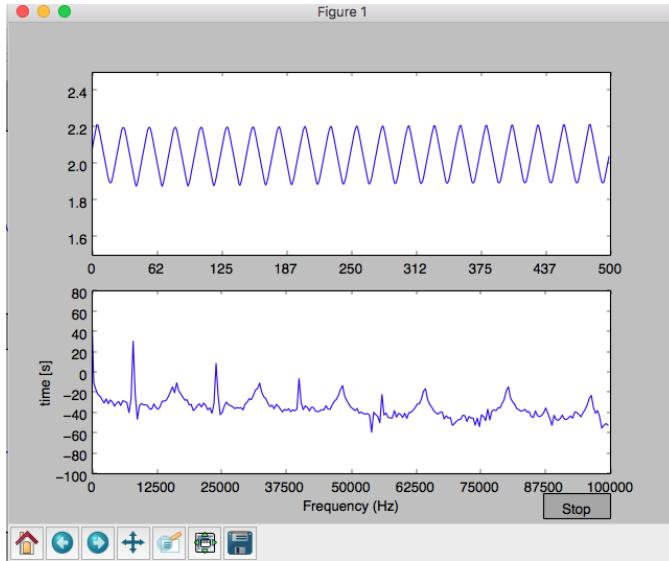

Figure 18: Screen capture of the real-time signal capture program.
- If you are using the lab computer, you can run the program from the Spyder IDE that comes with the Anaconda Python distribution. If you do so, make sure that you run the program under the Python console rather than the IPython console. You could also run the program from the command line by “python realtime.ad.analysis.py”. You should expect to see a new window popping up that displays the sampled input signal and its frequency spectrum in real time (Fig. 18).